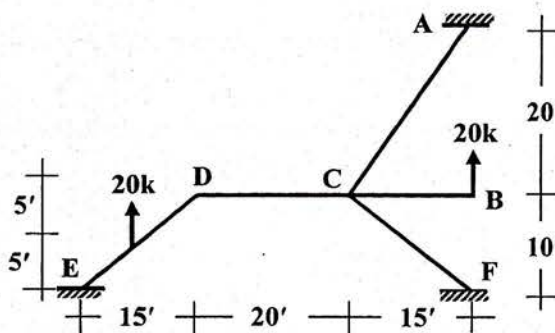

Figure 8
- [8] Draw BMD of the frame shown in Figure 8 by using the Moment-Distribution Method. Assume the support E has settled 2.5 inches. Given, $EI = 16 \times 10^7 \text{ k-in}^2$. (20)